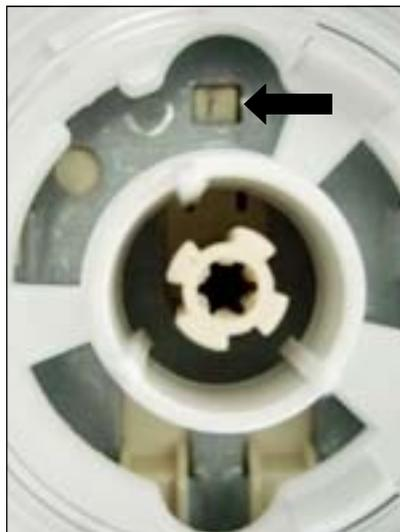

Fig. 4-9
- Using a small screwdriver push in on the Locking Tab (Fig. 4-9), while holding the Locking Tab in use your other hand to bring the bottom of the Program Selector slightly away from the Mounting Plate, and then remove by sliding it up and off (Fig 4-10). In Fig. 4-11 you can see the four (4) alignment tabs that hold the Program Selector to the Program Selector Mounting Plate.